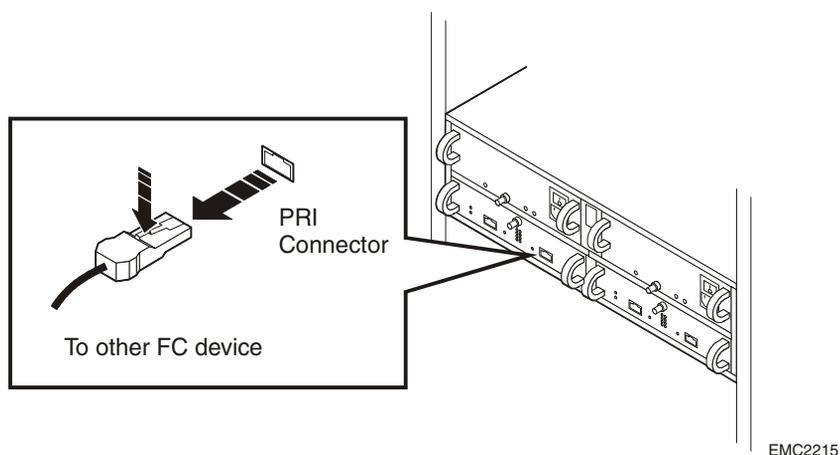

Figure 3-10 Removing a Copper Cable from an LCC
1. Gently press the connector latches to release them as you remove the copper cables connected to the LCC, as shown in Figure 3-10.